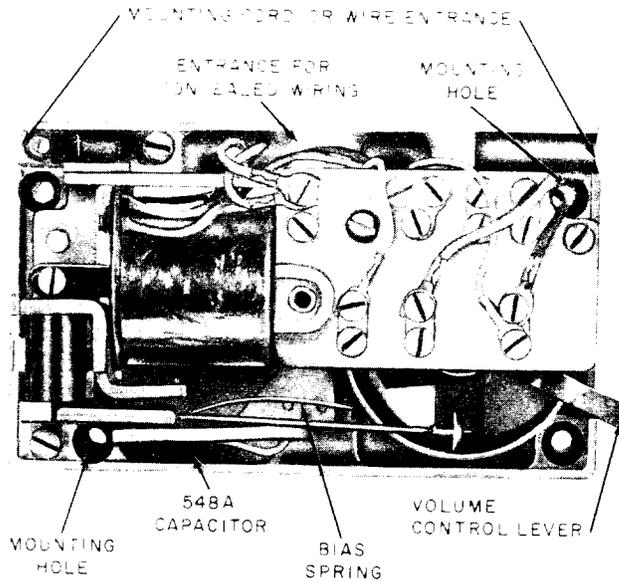

Fig. 2—E1C Ringer, Internal View
2.01 The E1C and E1D (nonmodular) ringer (Fig. 2 and 3) consists of a 7- or 10-terminal connecting block and a single-gong ringing mechanism in series with an 0.40  $\mu$ f capacitor.
2.03 The E1-type ringer is equipped with a volume control lever (Fig. 2). Volume is adjustable from OFF to LOUD. To adjust ringer to off position, refer to 3.06.
**3.03** For nonmodular type ringers, the inside wire can enter the ringer from the bottom or either end (Fig. 2 and 3). The mounting cord from